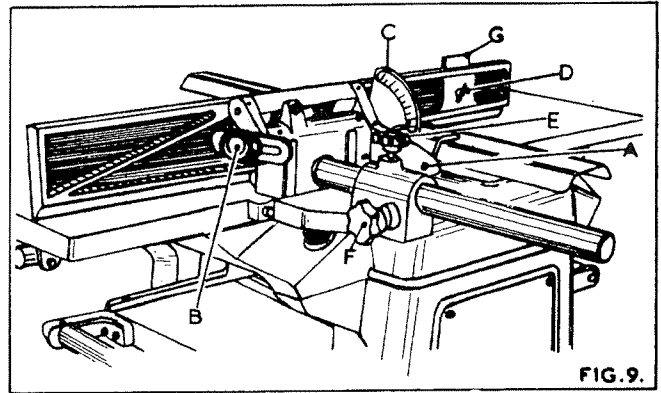
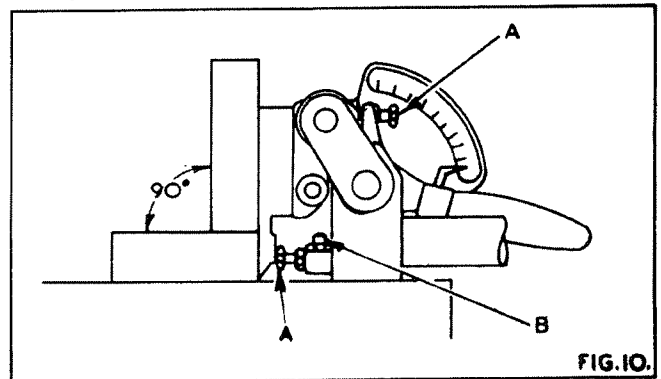

FIG. 9.
FIG. 10.
The fence cants by means of a lever "A" in Fig. 9. The angle is shown on the graduated scale "C".
1. Move the fence towards the rear of the table as shown in Fig. 10.
2. Check the 90° positive stops by means of a steel square as in Fig. 10. If adjustment is necessary adjust the hexagon head bolts "A" until fence is at right angles to the table when hard up against the stops and the handwheel "B" in Fig. 9 locked.
3. Check the 45° positive stop by means of an adjustable square. If adjustment is necessary adjust the socket head grubscrew "B" in Fig. 10 until the fence is 45° to the table when hard up against the stop and the handwheel "B" in Fig. 9 locked.